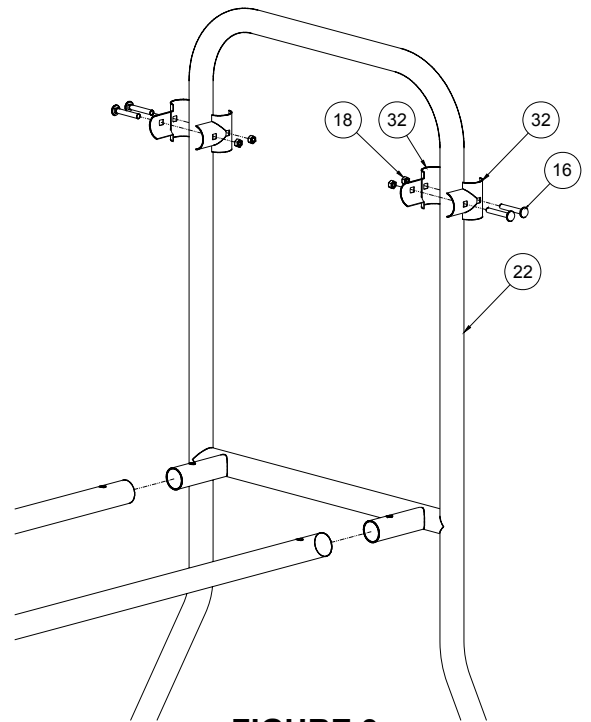

FIGURE 3
1. Begin by locating the rear frame, front cross tubes (2), and the split tees as shown in **FIGURE 3**. Attach front cross tubes to the rear frame by sliding over the inserts as shown in **FIGURE 3**. (Do not bolt cross tubes in at this time) Attach (4) split tee halves at the top of the rear frame using (4) 3/8"x2-1/2" carriage bolts and (4) 3/8" hex nuts. **NOTE:** Do not tighten any hardware until final step.